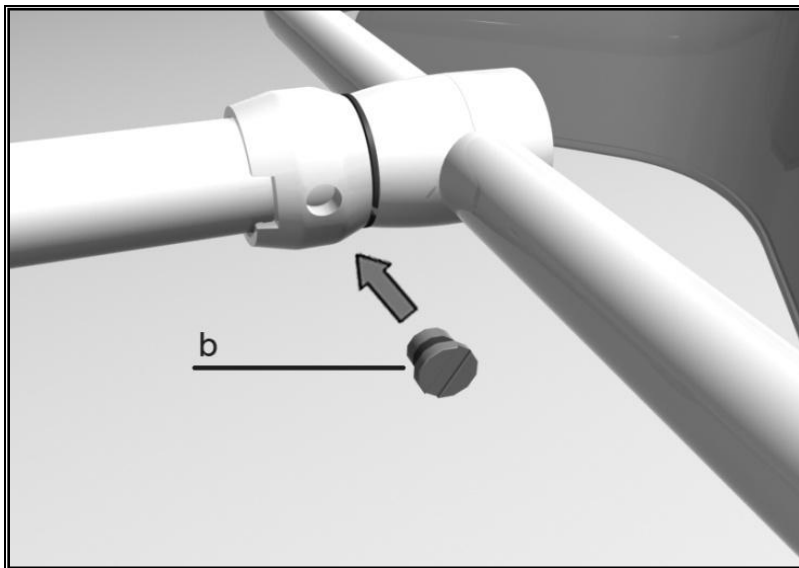

Figure 6
10. Thread the brake screw (b) into the collar as shown in figure 6 and tighten until the rotating joint has the desired friction.